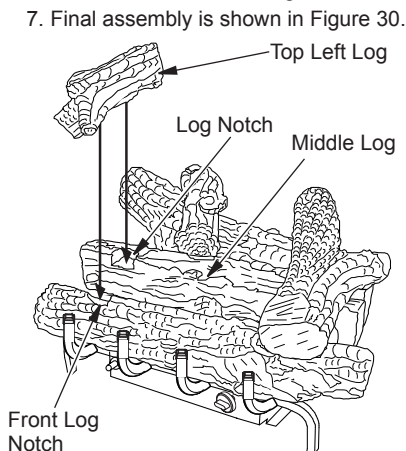

Figure 29 - Installing Top Left Log
6. Place the top left log onto the middle and front logs as shown in Figure 29. Make sure to match up the shape on the bottom of the top left log with the notches in the middle and front logs.